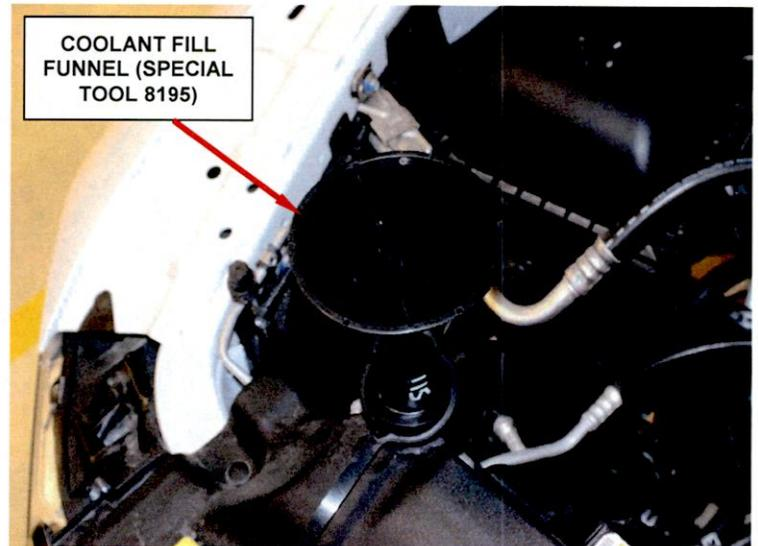

Figure 5 – Coolant Fill Funnel
- a. Install coolant fill funnel (Special Tool 8195) (Figure 5).